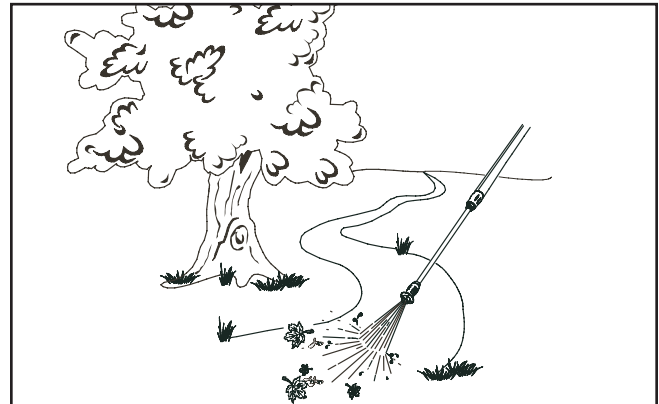

Figure 14: Testing the spray pattern
2. Point nozzle down towards a firm surface and press trigger to test pattern (Figure 14).